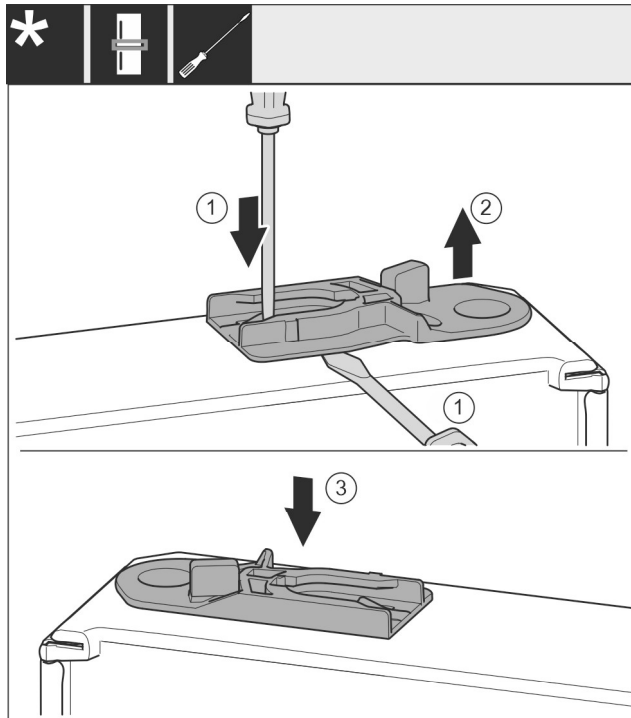

Fig. 38
- ▶ Pull out the guide bushing: Press the tab Fig. 38 (1) with the slotted screwdriver while running the slotted screwdriver under the guide bushing Fig. 38 (2) at the same time.
- ▶ Insert the guide bushing Fig. 38 (3) supplied in the scope of delivery on the other side of the housing.